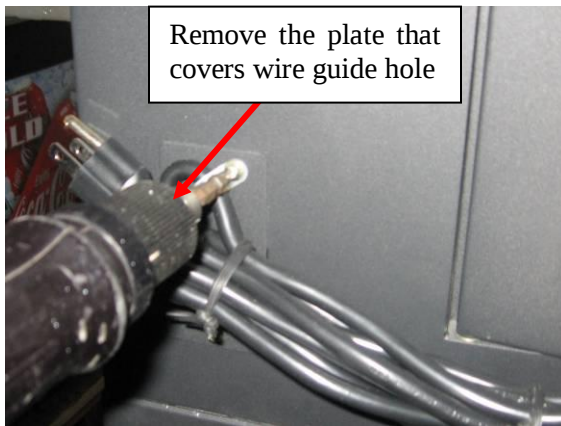

Figure 8
3. Remove the plate that covers the wire guide hole on the back of SNACK UNIT (*figure 8*).